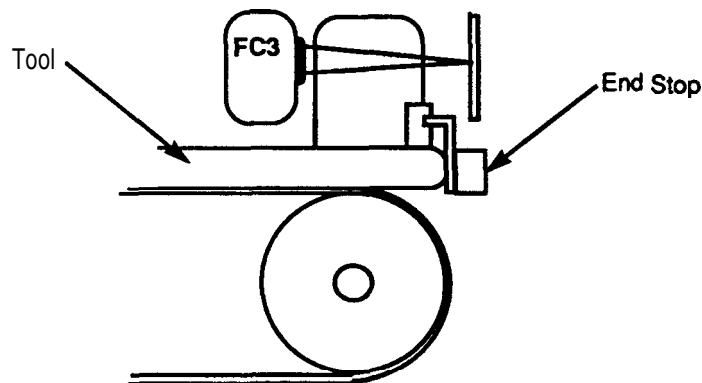

Figure 10B
- 1 Unplug the CAM MOTOR and CONVEYOR BELT **MOTOR** from PCB 106/A/B. Open S23 on PCB 103/A/B to disable the CAM MOTOR time **out**. Trigger FC 2 by breaking the beam with your finger. The FC 3 LED should **light**. Place the correct **TOOL** (see above) on the conveyor belt as shown in fig 10B. Make sure the **TOOL** is hard against the **END STOP** and the **RIGHT HAND CASSETTE GUIDE**. The FC 3 LED should go **off**.